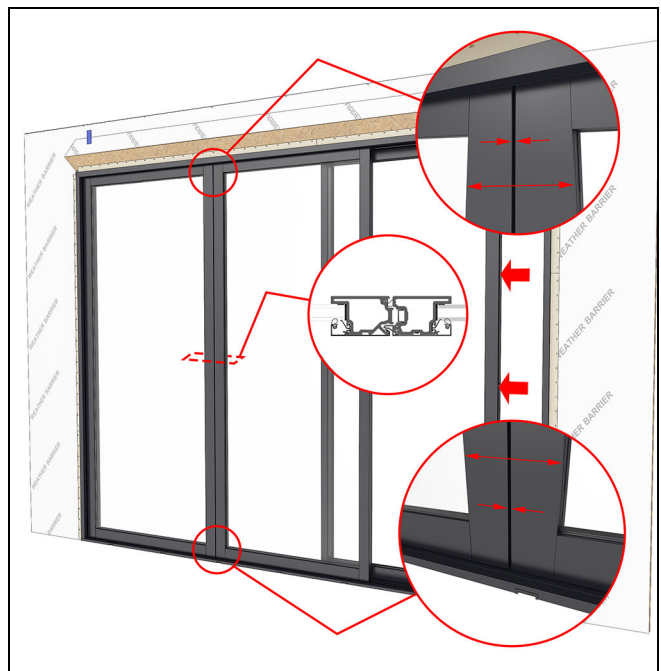

Figure 122
12. Slide the (C) panel over tight against the (H) stationary panel. Check to make sure you have an even reveal along the panel. The gap should be about 1/4" or less. See Figure 122.